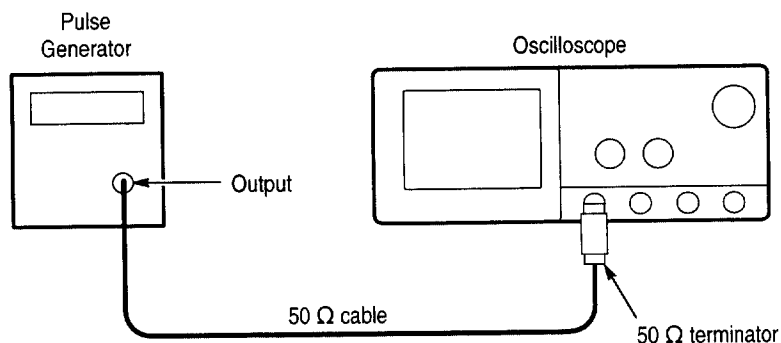

Figure 1–39: Setup for sync duty cycle test
- Connect the pulse generator through a 50 Ω cable and a 50 Ω terminator to the oscilloscope CH1 input. See Figure 1–39.
- Turn the pulse generator **OUTPUT (VOLTS)** control until the signal on the oscilloscope shows a one division negative-going pulse. See Figure 1–40.